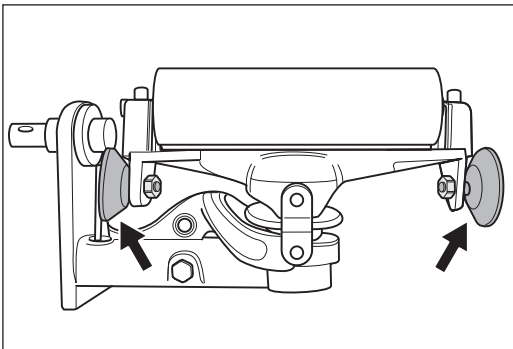

Fig. 72 The two guide rollers at the drive unit **must be rotatable easily!** Otherwise they **must be replaced (RISK OF FIRE)!**
- The two guide rollers at the drive unit **must** be rotatable easily (fig. 72)!